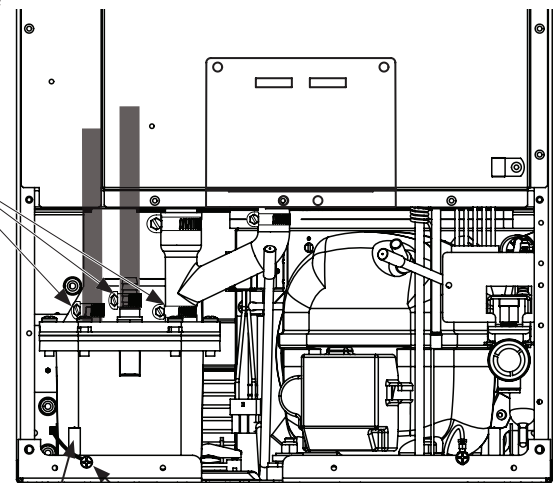
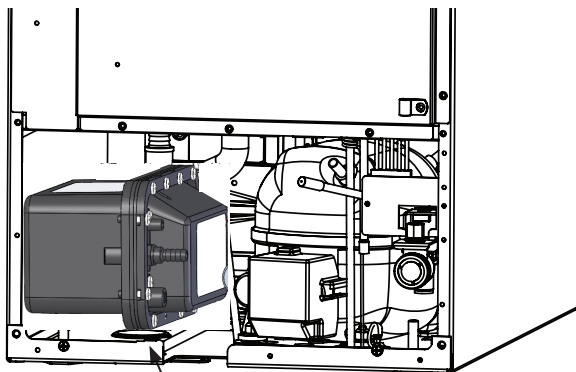

Figure 42
Figure 46
4. Unscrew the 3 hose clamps and remove the 3 hoses from the front of the drain pump. (See Figure 42).
5. Unscrew the leveling leg in the back corner until the end of the threaded portion is flush with the threaded nut insert in the base. (see Figure 42).
6. Rotate the drain pump and remove from the ice machine, (See Figure 46). It may be necessary to disconnect the ground wire connection in the back flange of the cabinet. (See Figure 42).